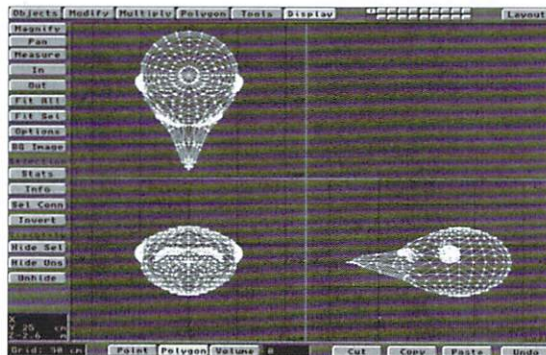

Figure 4: The final Bird Head.
•Select the center ring of polygons at the outer side of the eye, bring up the Surface (q) requester and name this "Bird\_EyePupil". Now select the next outer ring and name it "Bird\_EyeWhites". Finally, use the Mirror (Multiply panel) tool from the Face View to make the right eye. Save out the complete group of objects as "Bird\_Head.lwo". Refer to Figure 4 for a look at my completed Bird Head object.